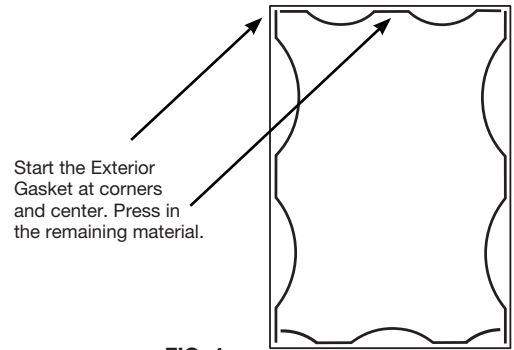

FIG. 4
Step 6: Cut the **NP825** Exterior Gasket for all four sides 1/8" (3.2) longer per foot to allow for shrinkage and bevel cut the ends to assure a good seal. Insert each section using **Figure 4** as your guide. Apply **CRL RTV408 Silicone Sealant** to each end of the gasket as it is installed.